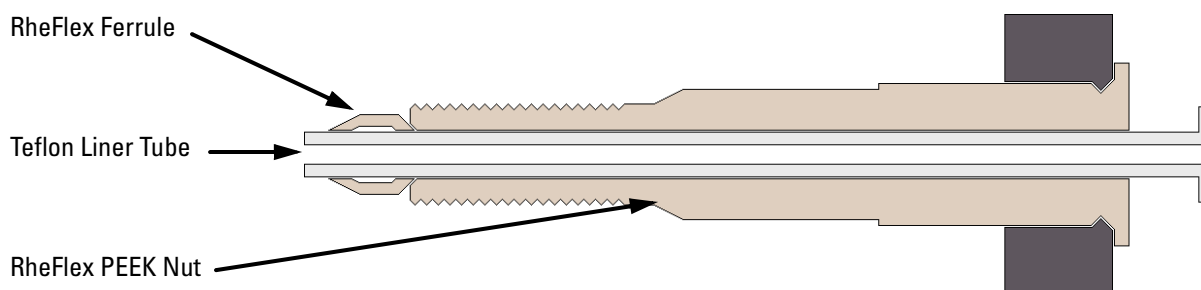

Figure 8-5. Needle port fitting, P/N 00110-22030
- a. Inserting the liner tube, RheFlex ferrule, and the threaded portion of the RheFlex nut (see Figure 8-5) into port 5 of the divert/inject valve.